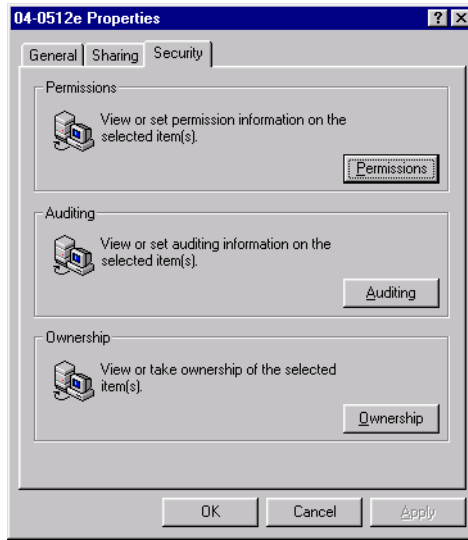

Figure B-6: Security Properties Page
- Click the Security tab to access the Security page (Figure B-6).